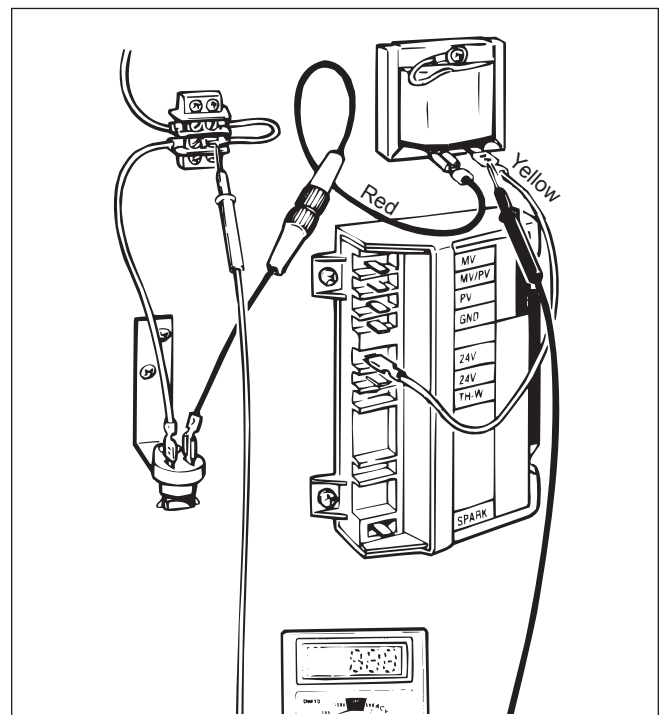

Figure 39. Testing the fusible link.
1. Touch the voltmeter lead to the lower terminal on the terminal block (see Figure 39).